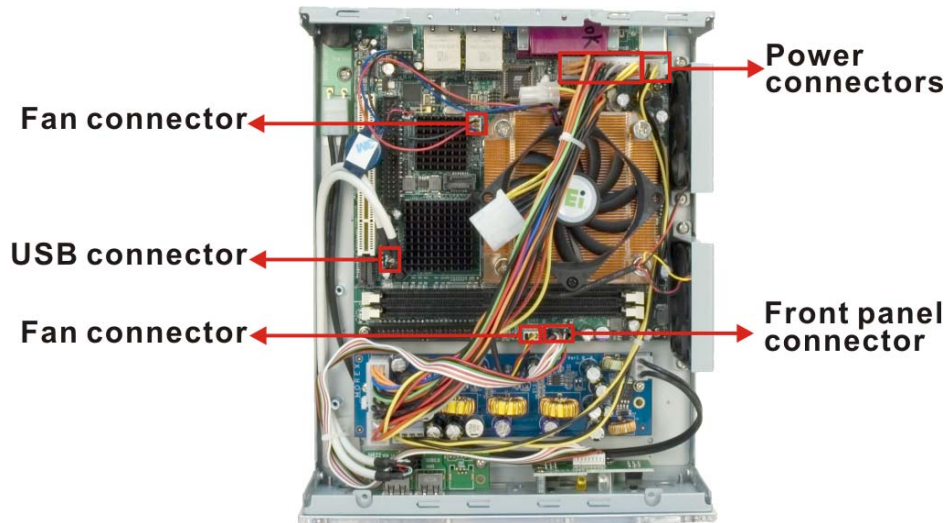

Figure 4-3: Motherboard Connectors
Step 2: Remove the following connector cables (**Figure 4-3**):